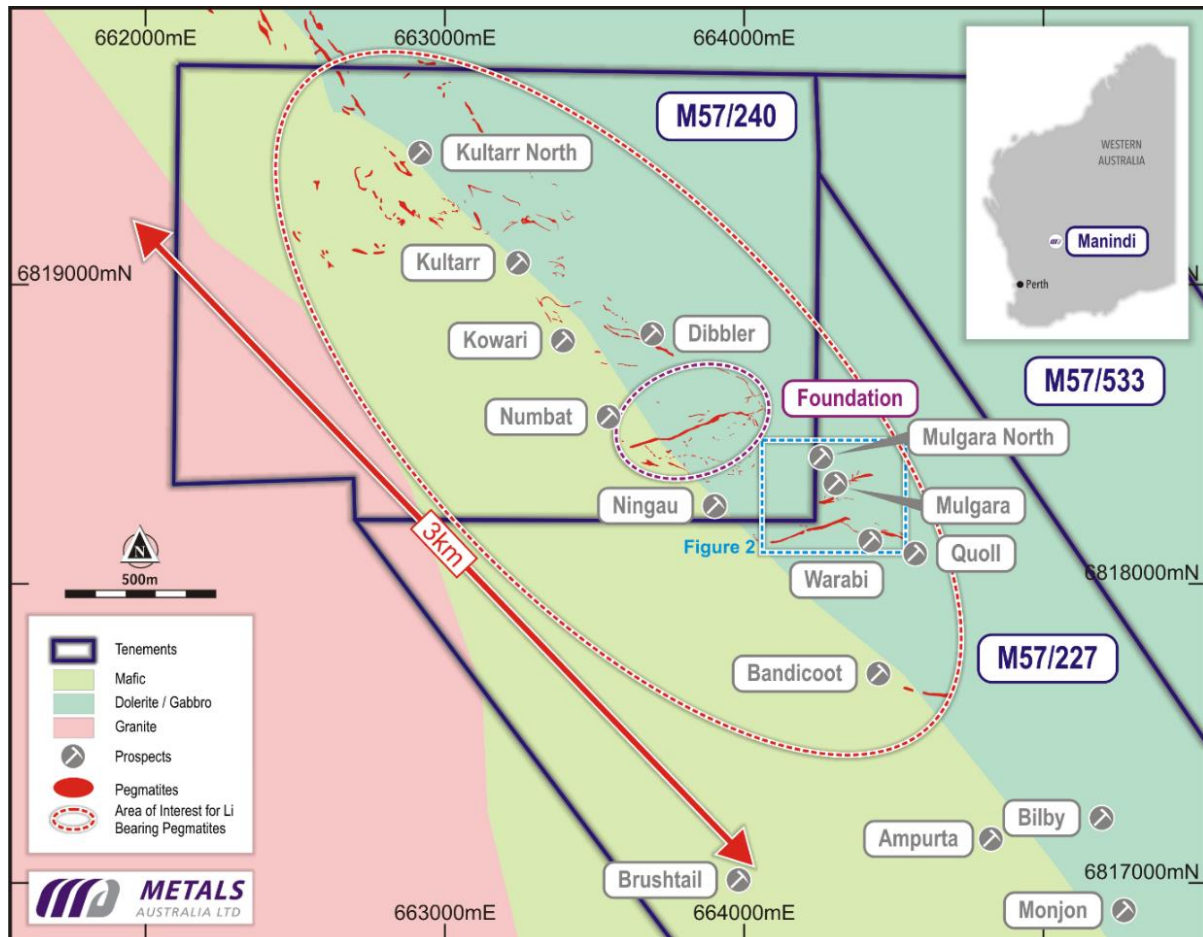
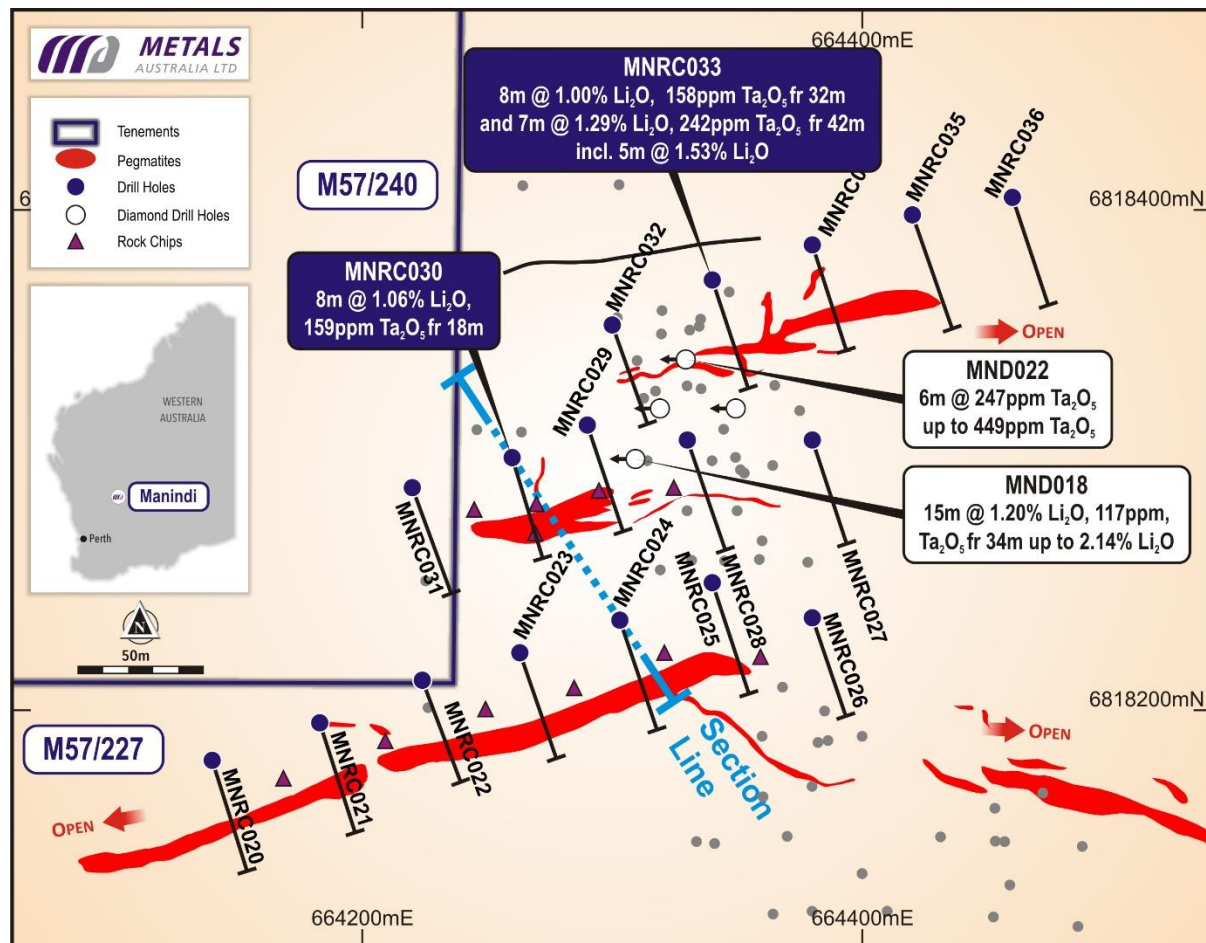

Figure 1: Manindi Lithium Project, WA, with mapped LCT pegmatites to date
Figure 2: Manindi Lithium Drillhole Location Plan, WA
- Fieldwork has identified and sampled further pegmatites, extending the mapped area of pegmatite occurrences to a greater than 3km strike-length corridor (Figure 1)
The new pegmatites that have been mapped and sampled include the largest pegmatite occurrence identified to date, the **Foundation Pegmatite**, which is over 500m long in a southwest – northeast direction, with multiple pegmatite outcrops over 200m in a northwest-southeast direction (see Figure 1 below).
The Foundation Pegmatite occurs immediately to the northwest of the Mulgara, Mulgara North and Warabi pegmatites, where three mineralised pegmatite dykes have been mapped, with strike lengths of over 300m and widths of up to 25-30m (Figure 2).
Subsequently, limited drilling of the three initially identified pegmatites produced significant intersections of lithium and tantalum mineralisation, including (see Figure 2 for location):
The Manindi Project includes three granted mining leases in the fertile Youanmi Igneous geological complex, located approximately 20 km southwest of the Youanmi Gold Mine in the Murchison District of Western Australia (see location inset Figure 1).
Detailed surface mapping carried out at Mulgara and Warabi, situated approximately 1.3km SE of the Kultarr and Kowari zinc resources (Figure 1), previously identified at least three lithium bearing pegmatites outcropping at surface with strike lengths of over 300m and widths of up to 25-30m (Figure 2). The pegmatite intrusions cross-cut the main geological strike in a northeast-southwest orientation and appear to be moderately zoned with coarser grained crystals adjacent
Re-sampling of previous diamond drillcore that targeted VHMS sulphide mineralisation at Mulgara, produced intersections including **15m @ 1.20% Li₂O from 34m, including 5m @ 1.53% Li₂O from 38m, in MND018** and **3m @ 1.00% Li₂O from 41m in MND022**¹ (see location, Figure 2).
Following the positive identification of lithium bearing LCT pegmatites at Manindi, a shallow RC percussion drilling program was completed at the Mulgara Prospect to test the three outcropping pegmatite dykes (Figure 2).
- Further systematic mapping and sampling of newly identified LCT pegmatites (Figure 1),
- Further drilling of previously tested pegmatites at Mulgara and Warabi (Figures 1 & 2):